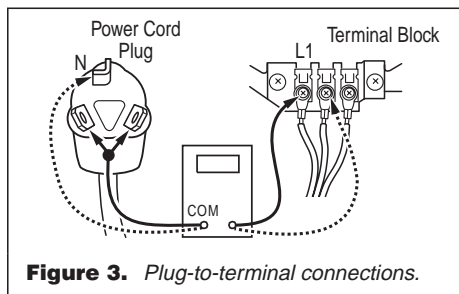

Figure 3. Plug-to-terminal connections.
3. With an ohmmeter, check for continuity between the neutral (N) terminal of the plug and the center contact on the terminal block. See figure 3.
4. In a similar way, check which terminal of the plug is connected to the left-most contact on the terminal block and make a note of it. This will be L1 (black wire) in the wiring diagram. See figure 3.